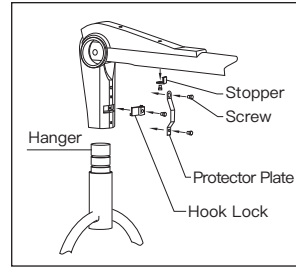

Fig. 6
5. Remove the stoppers, screws, protector plate and hook lock from the arm (See Fig.6). Attach the arm to the hanger and reinstall all the stopper, screws, protector plate and hook lock.